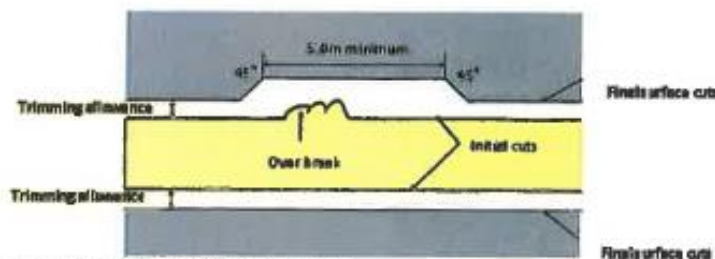

Figure D 2: Parallel Cutting of Joints
- d) the length of trim at any one section of over-break must not be less than 5m (refer Figure D 2: Parallel Cutting of Joints).